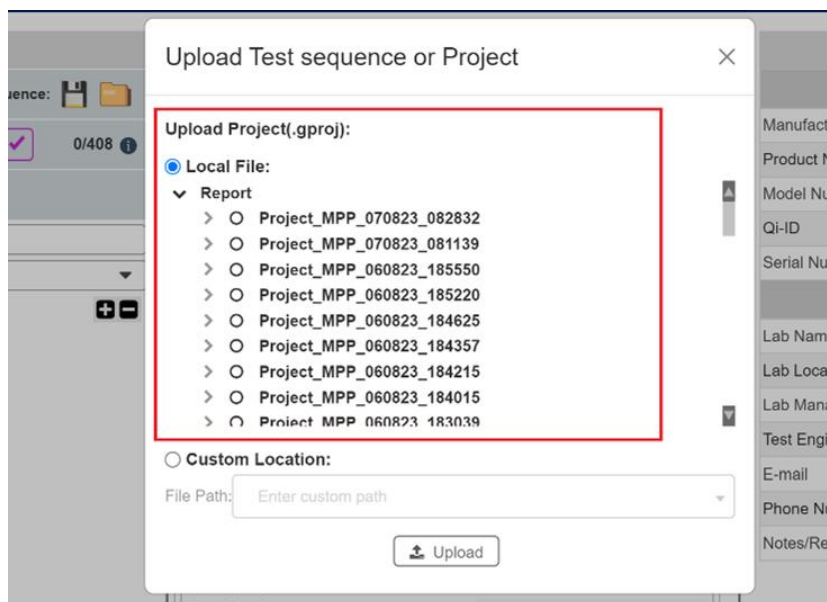

FIGURE 8.30: UPLOAD PROJECT— #2
2. If the required project file (.gproj file) was saved in the local file directory, select that project file under “Local File” as shown in Figure 8.30 below.